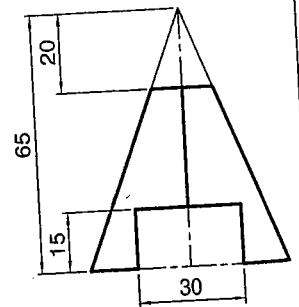

Fig. 13.33(a)
**PROBLEM 13.33 (FIG. 13.33)** Figure 13.33(a) shows the front view of a truncated square pyramid having a base with a 40 mm side and a 65 mm long axis, is resting on its base on the H.P. with all the sides of the base equally inclined to V.P. Draw the development of the lateral surface of the retained solid.
**CONSTRUCTION Figure 13.33(b)**